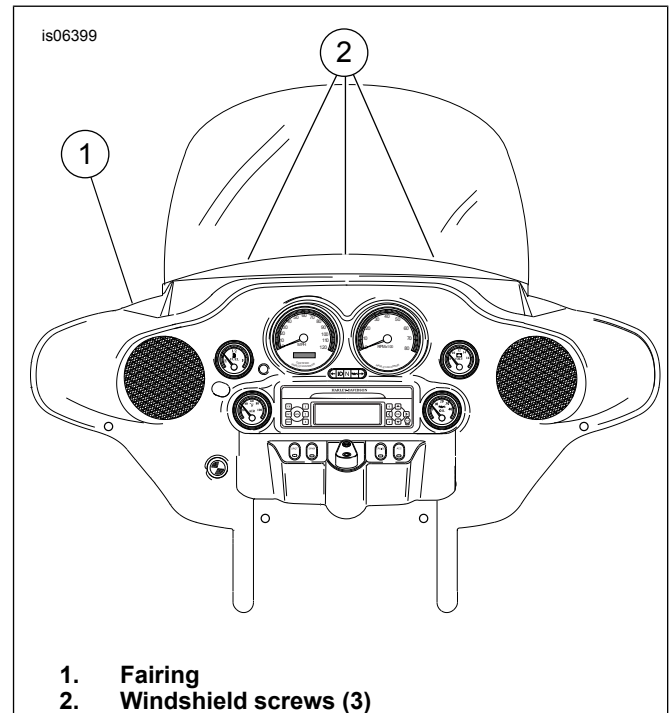

Figure 1. Windshield Installation
1. See Figure 1. Loosen but do not remove three screws (2) (with flat washers) securing the windshield to the fairing (1).
1. See Figure 1. Place the windshield into position between the inner and outer fairings (1) engaging the slotted holes in the windshield with the threaded bosses on the inner fairing.
2. Tighten three screws (2) to 2.8–3.4 N·m (25–30 in-lbs).